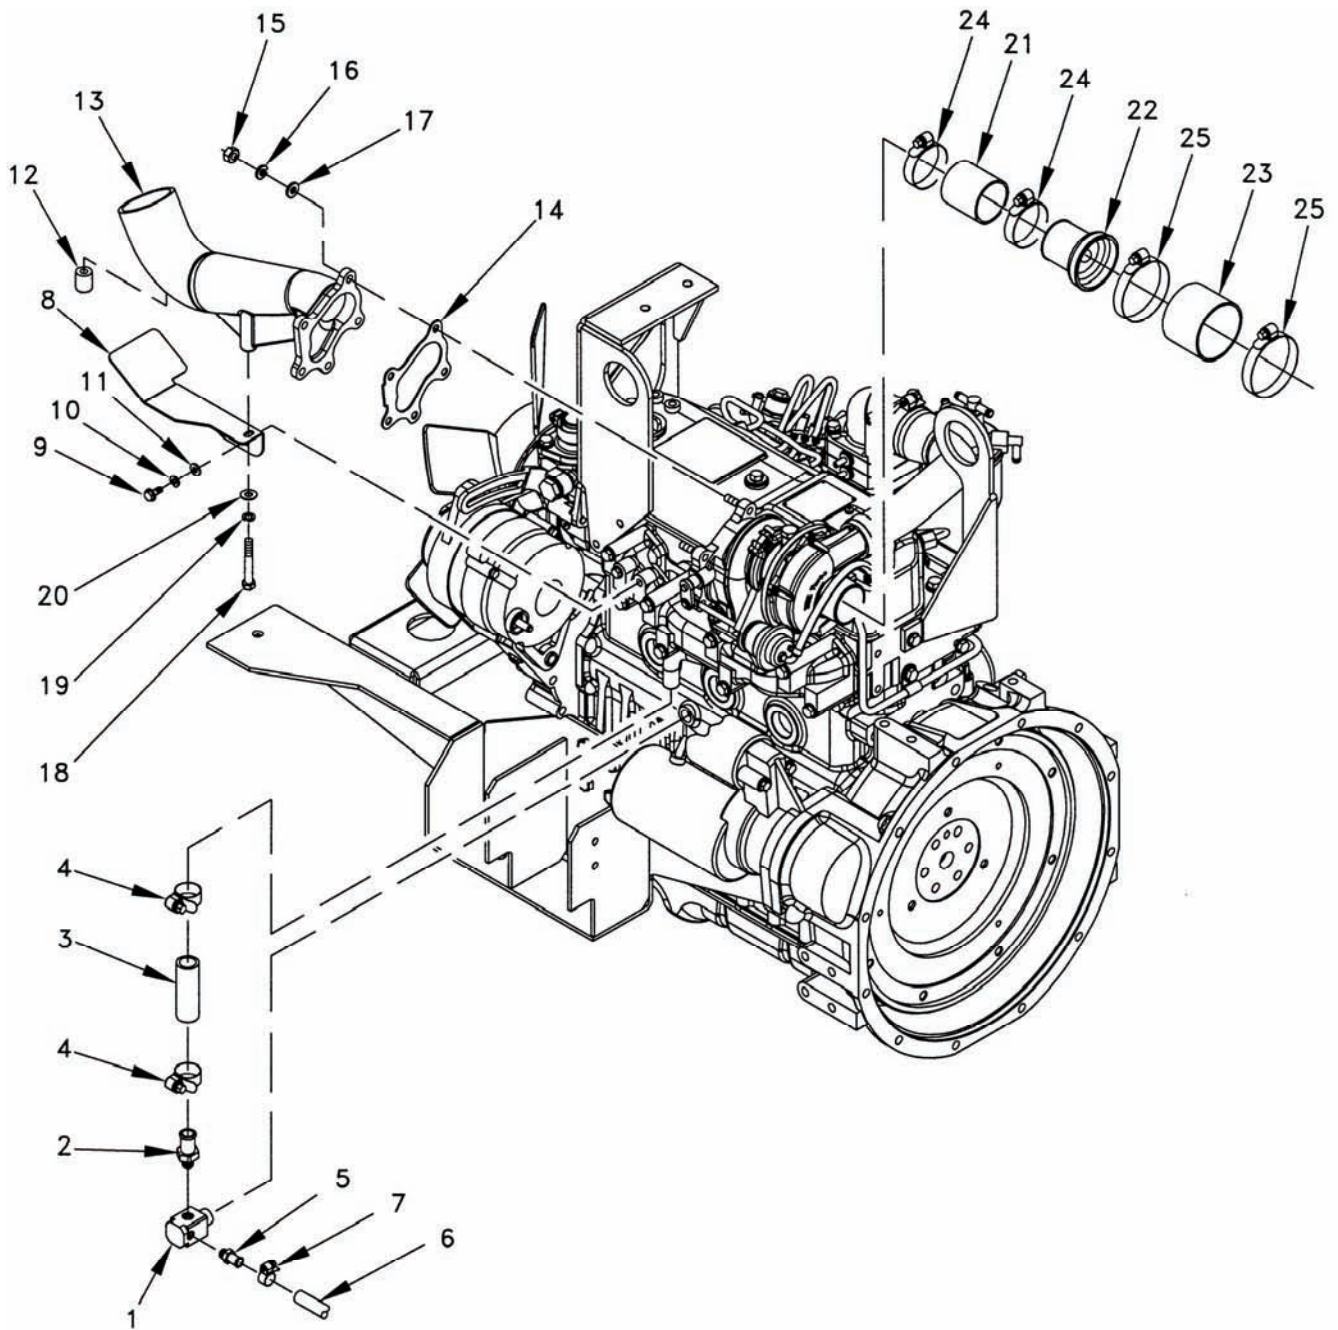
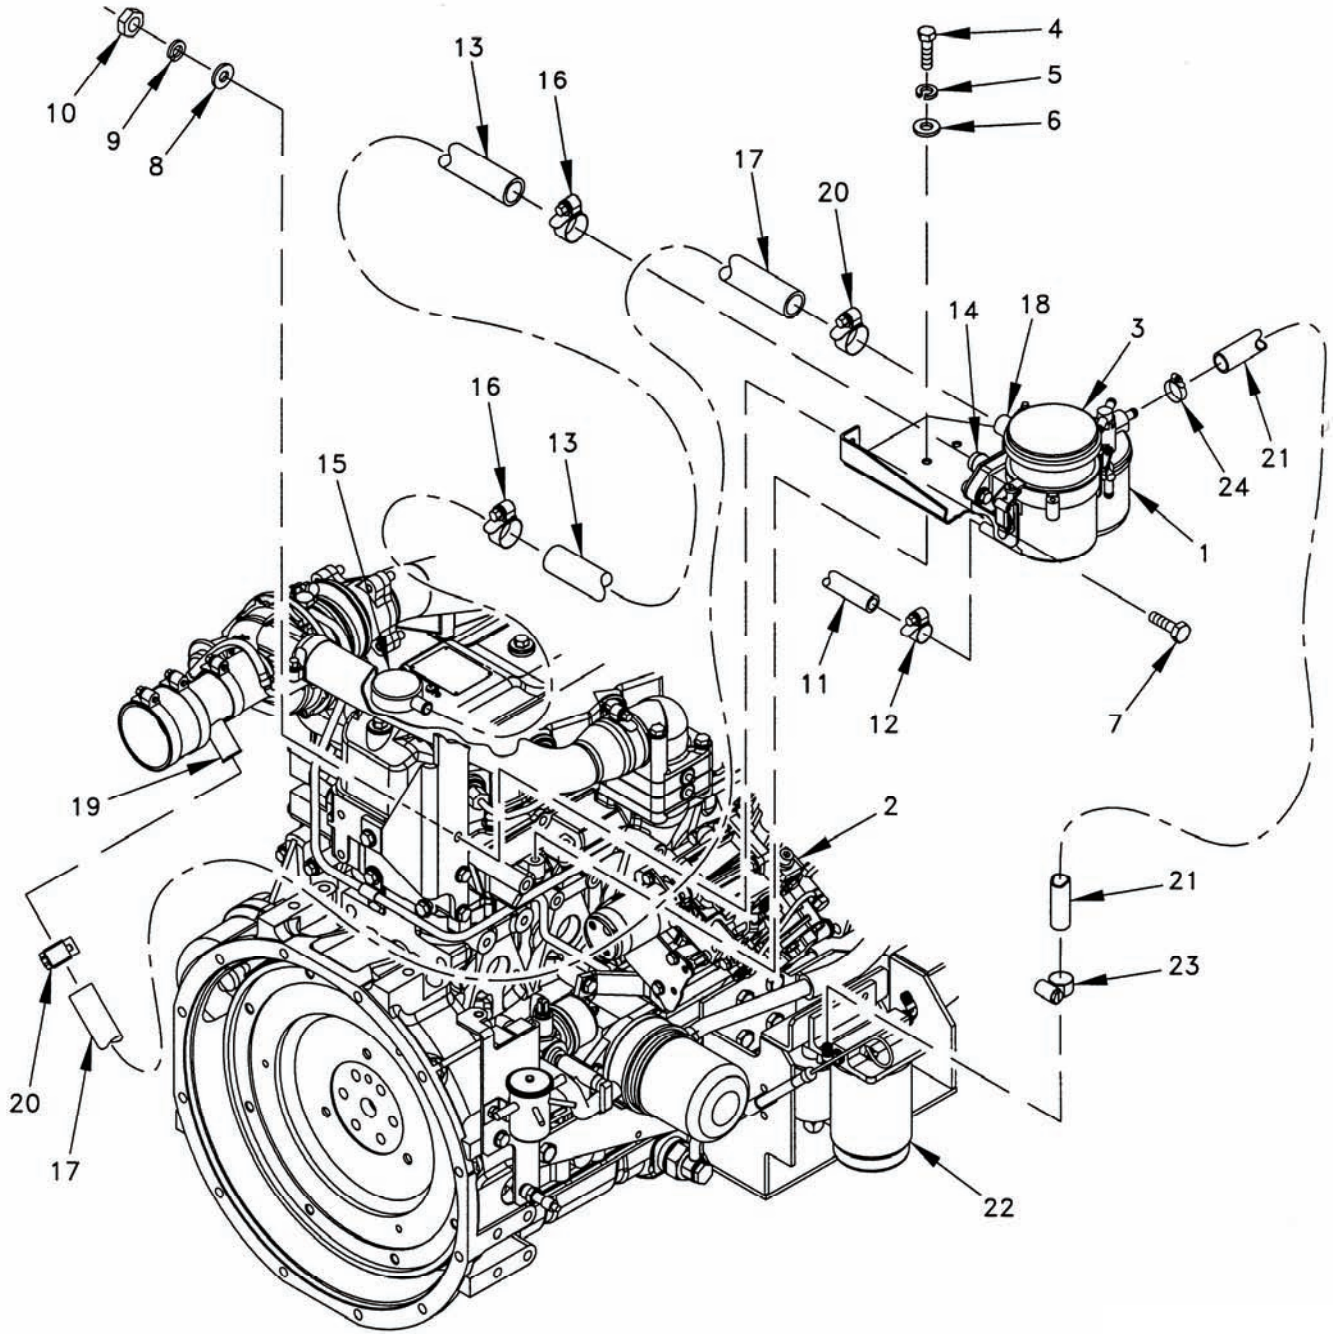

Figure 5-22. Left Side Engine Components.
Figure 5-25. CCV Filter.
- a. Remove shipping plug, if necessary, and install T-fitting (1, Figure 5-22) (Item 27, Table 5-1) using sealing compound (Item 6, Table 5-2).
- b. Install fitting (2) (Item 46, Table 5-1) to T-fitting (1) using sealing compound (Item 6, Table 5-2).
- c. Install hose (3) (Item 74, Table 5-1) using two hose clamps (4) (Item 39, Table 5-1).
- d. Install fitting (5) (Item 45, Table 5-1) to T-fitting (1) using sealing compound (Item 6, Table 5-2).
- e. Connect one end of 27-inch (68.6 cm) hose (6) (Item 23, Table 5-1) to fitting (5) using hose clamp (7) (Item 37, Table 5-1). Other end of hose will connect to closed CCV filter after it is installed.
- f. Install turbo output manifold bracket (8) (Item 15, Table 5-1) using two screws (9) (Item 40, Table 5-1), lock washers (10) (Item 55, Table 5-1), and flat washers (11) (Item 57, Table 5-1).
- g. Install pipe plug (12) (Item 47, Table 5-1) to exhaust manifold (13) (Item 16, Table 5-1) using sealing compound (Item 6, Table 5-2).
- a. Remove fuel filter (1, Figure 5-25) from engine (2). Retain mounting hardware for reinstallation.
- b. Install CCV filter (3) (Item 2, Table 5-1) using two screws (4) (Item 52, Table 5-1), lock washers (5) (Item 55, Table 5-1), and flat washers (6) (Item 57, Table 5-1).
- c. Install screw (7) (Item 62, Table 5-1), lock washer (8) (Item 58, Table 5-1), flat washer (9) (Item 83, Table 5-1), and nut (10) (Item 61, Table 5-1).
- d. Install fuel filter (1) next to CCV filter (3) on same mounting bracket using original fuel filter mounting hardware plus two washers (item 57, Table 5-1), lock washers (item 55, Table 5-1), and nuts (item 38, Table 5-1).
- e. Locate hose (6, Figure 5-22) connected to T-fitting on engine oil port. Attach loose end of this hose (11, Figure 5-25) to CCV filter (3). Secure with hose clamp (12) (Item 37, Table 5-1).